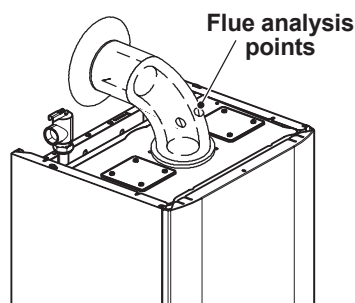

Figure 15.34
- Remove the plugs indicated (Fig. 15.34).